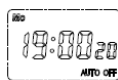

Figure 7
6.2.1 Press button “MD” for 3s to cancel the keyboard lockout, so that “LOCK” may disappear, the current “date” flash, you can adjust the date then, see Figure 7.